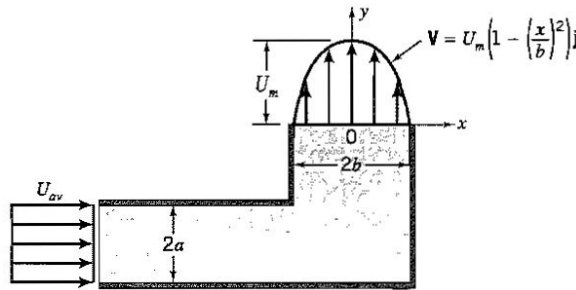

Figure P3.33
3.33 Air of constant density flows steadily through the rectangular duct of width W shown in Figure P3.33. At the entrance, the velocity is constant across the area and equal to U_{av} . The velocity at the exit has a parabolic distribution across the duct, with a maximum value U_m . The pressure is constant everywhere. By using the continuity equation, find the ratio b/a such that $U_m = U_{av}$. Then find the force \mathbf{F} exerted by the flow on the duct, assuming that the wall friction and the force due to gravity are negligible.